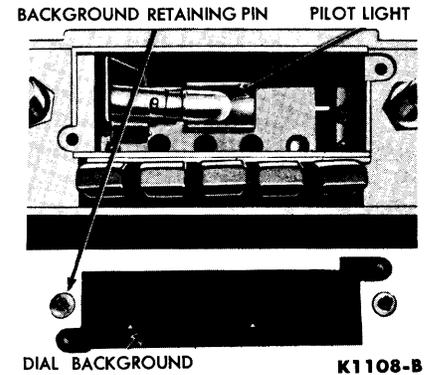

FIG. 4—Pilot Light Replacement
3. The dial light is then accessible for replacement (Fig. 4).